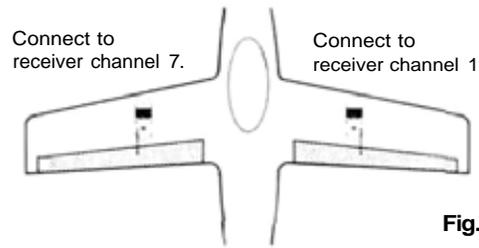

Fig. 71
- Install and connect the servos as shown in Fig. 71. Always connect the Right Aileron servo to CH1 (Aileron). The Left Aileron servo is connected to CH7.